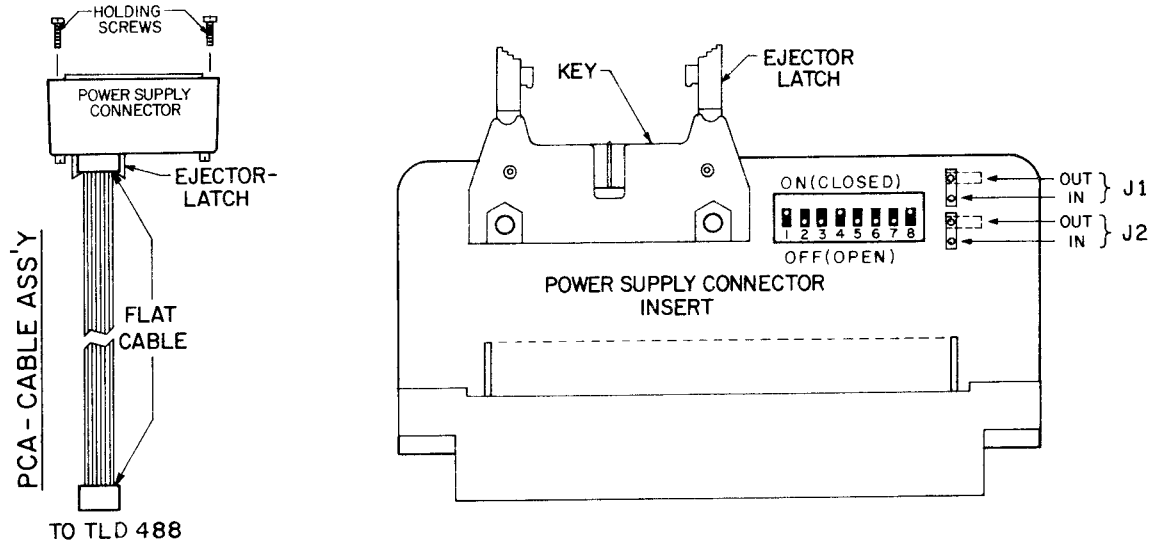
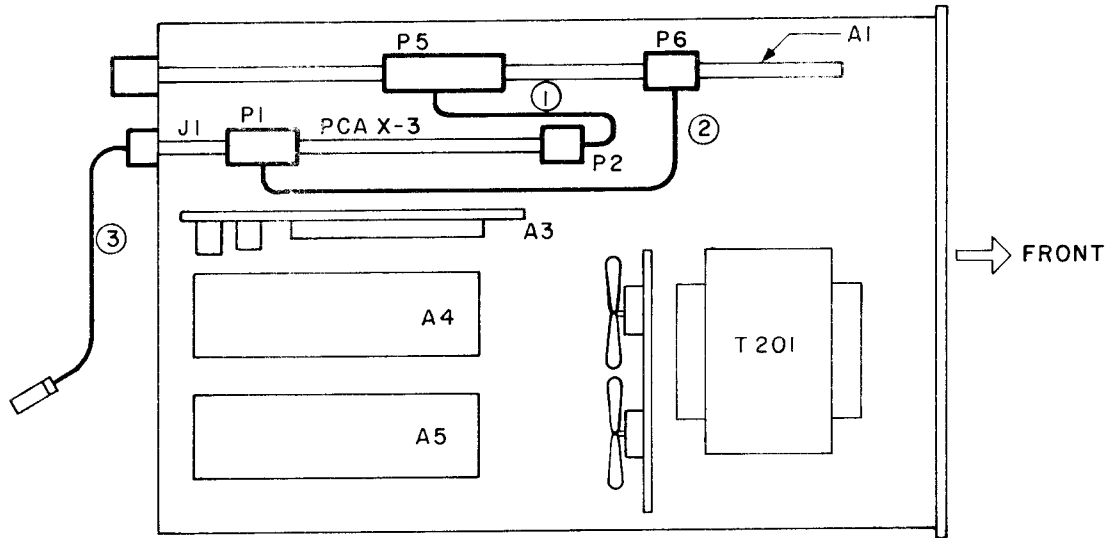

FIG. 2-6 PCA CABLE ASSEMBLY AND POWER SUPPLY CONNECTOR INSERT DETAIL, TOP VIEW.
FIG. 2-7 BOP TOP VIEW (SIMPLIFIED) WITH PCA X-3 INTERFACE INSTALLED.
STEP 1: Remove the flat cable from the connector assembly by opening the EJECTOR LATCH at the large connector end. Take the large connector, remove the two (2) 4-40 holding screws and take out the connector insert. Refer to FIG. 2-6.
2-16 For BOP power supplies, the interface between the BOP and the TLD 488-16 programmer consists of the Model PCA X-3 interface card and a set of three (3) cables with connectors. The Model PCA X-3 interface card is installed inside the BOP as shown in FIG. 2-7. Detailed installation instructions are provided with the PCA X-3 Instruction Manual.
- B) POWER SUPPLY I/O PORTS. These ports are terminated with connectors each of which accept a Kepco Series PCA cable assembly for ATE power supplies (see FIG. 2-6) or a 20-wire flat cable for BOP power supplies (see FIG. 2-7).